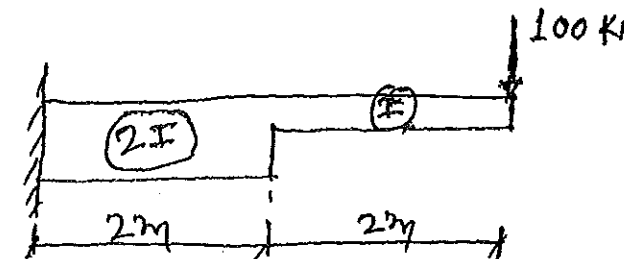

Fig. 3
- b) i) By conjugate-beam method, find the slope and deflection at the free-end of the prismatic cantilever shown in Fig. 3. (5+5)